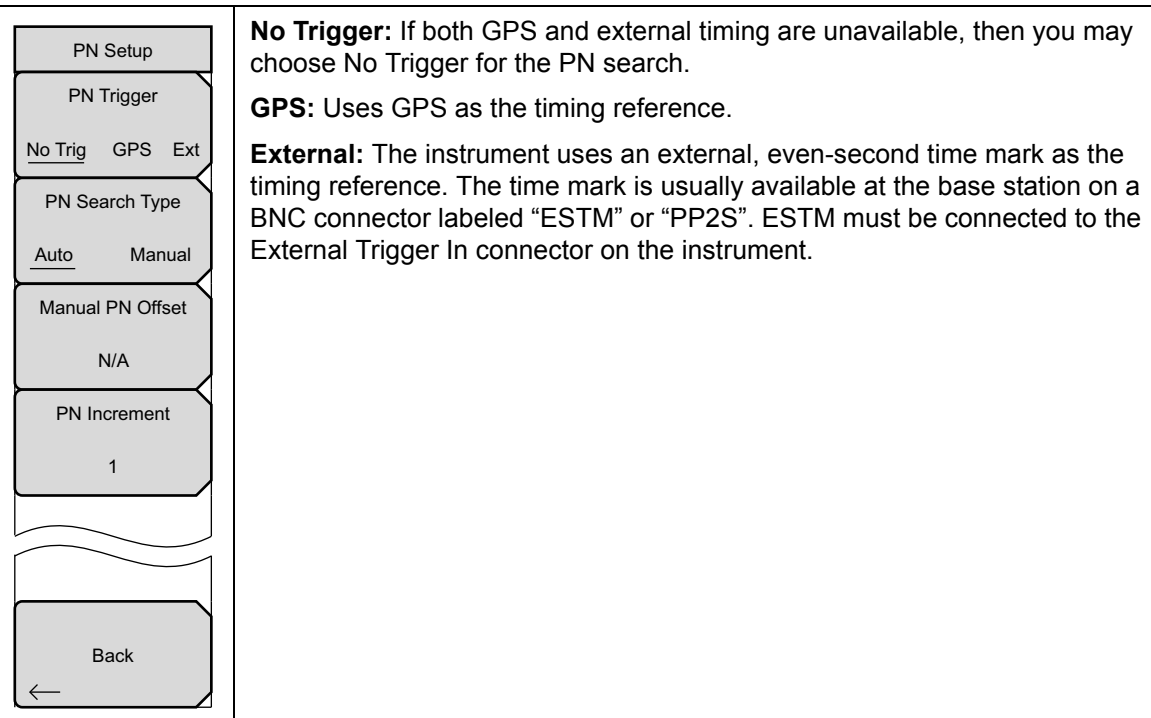

Figure 2-1. PN Setup
2. Press the PN Setup submenu key to open the PN setup menu (Figure 2-1).